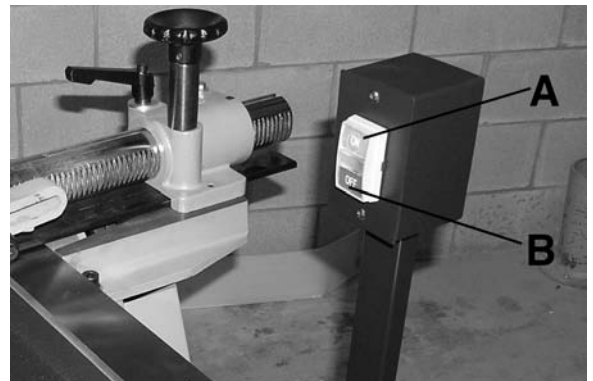

FIGURE 7
The On/Off switch is conveniently located on a post, behind the jointer fence, for easy accessibility. To start the jointer, press the start button (A) Fig. 7, and to stop the jointer, press the stop button (B).